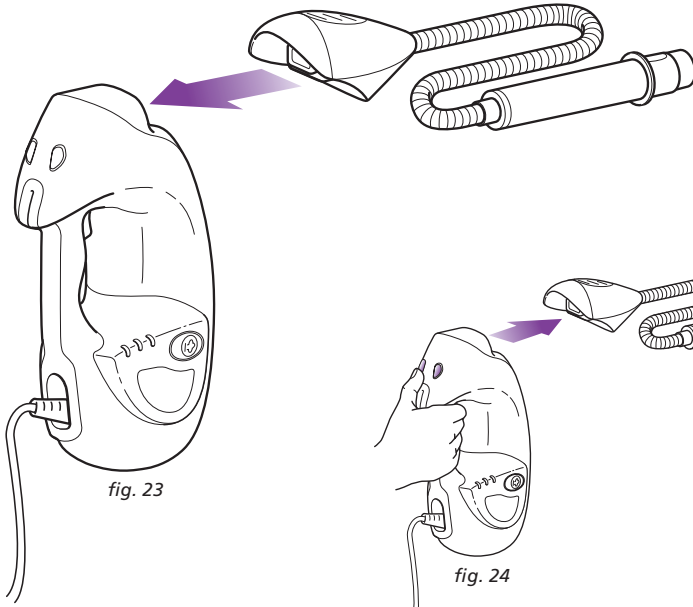

fig. 23
- 1 To use the Accessory Hose, first attach the Accessory Hose to the Handheld Steamer by snapping the Accessory Hose into the main nozzle. (fig. 23)